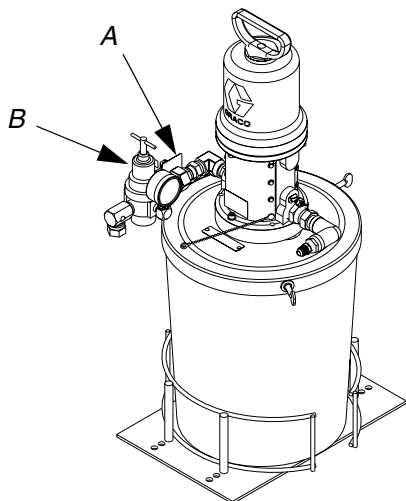

FIG. 15
2. A three way valve (C) mounted on the dispense valve allows solvent or air pressure to be applied to the mixer. Verify the valve is in the OFF position.
3. Following a solvent flush procedure provided by the material manufacturer, open the solvent flush valve (A) on the solvent pail pump. An air regulator (B) on the solvent pump controls the solvent pressure. See FIG. 15.